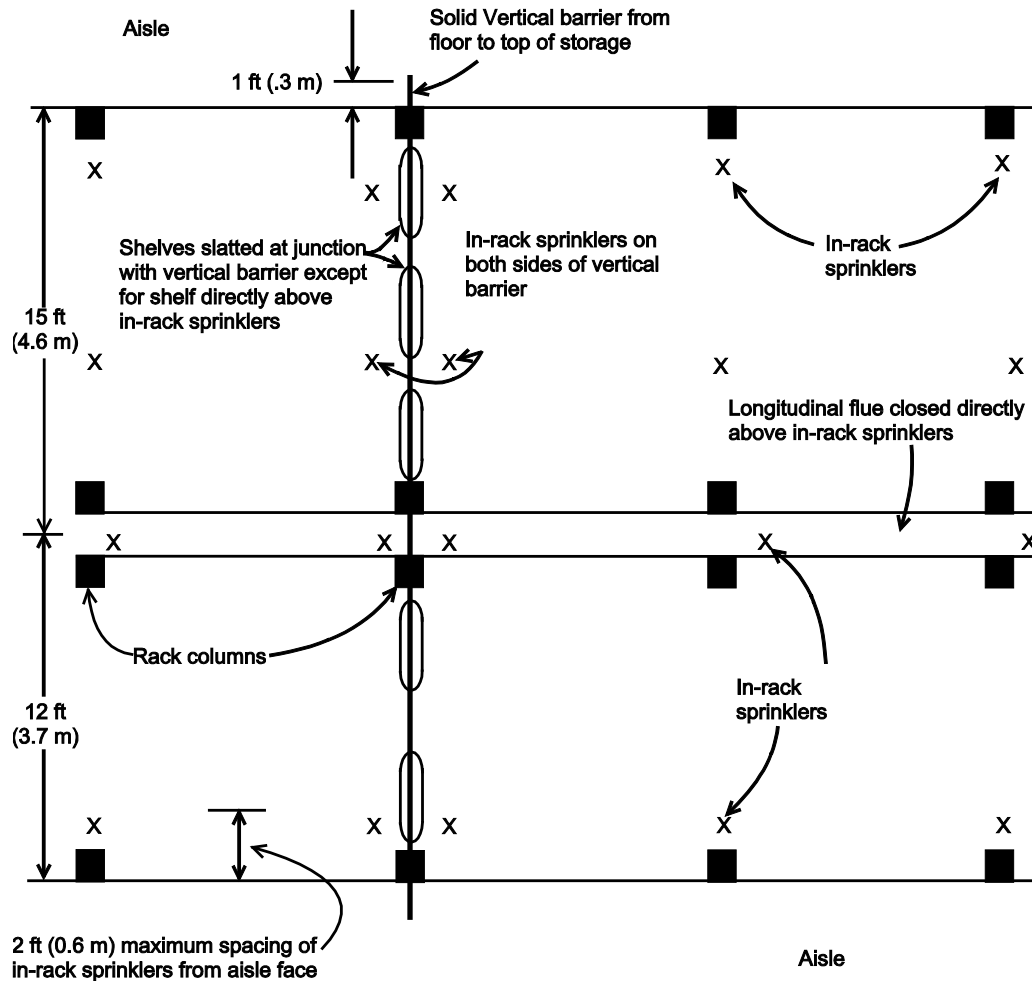

Figure 1. Plan View Showing Typical In-Rack Sprinkler, Barrier And Shelf Arrangement For 12 ft And 15 ft (3.7 m And 4.6 m) Back-To-Back Carpet Racks.
- Install vertical and horizontal barriers constructed of ½ in. (12.5 mm) listed fire retardant plywood as indicated in Figure 1. Install vertical barriers for the full width of the rack at a maximum spacing of 30 ft–36 ft (9.1 m–11 m), dependent upon rack-column intervals. Sheet metal, 22 gauge (0.78 mm), can be used in lieu of the fire retardant plywood for the vertical barriers. Extend the barriers above the top of storage and protrude 1 ft (0.3 m) on the aisle face to preclude fire communication from one zone to another. Install horizontal barriers at maximum 40 in. (1 m) intervals for the height of the rack.
- Notch or slot all horizontal barriers, except the one directly above the in-rack sprinklers, at each juncture with a vertical barrier. (Maximum length of a slot will be governed by how the shelf is supported.) (See Figure 1.)
- For a rack height of 12 ft (3.7 m) or less, ceiling protection alone may be acceptable, but vertical barriers are still required as in item 1.